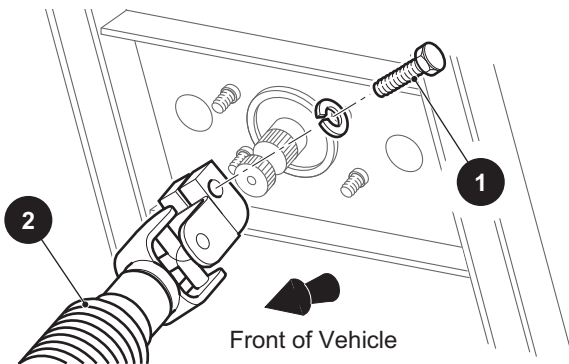

Figure 5 Disconnect Intermediate Shaft to Center Steering Wheel
6. To adjust the wheel alignment, loosen the tie rod jam nuts (1) and turn the tie rod (2) until the correct alignment is achieved (Figure 5).
7. Tighten the jam nuts (1) to the torque value specified below.
the steering shaft and center the steering wheel (Figure 5).